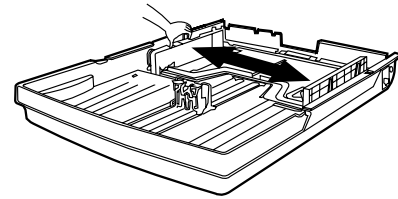
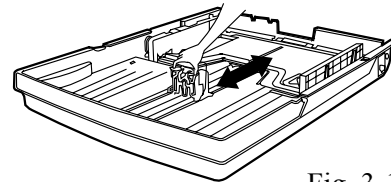

Fig. 3-17
Fig. 3-18
2. Set the side plate according to the paper size. For the horizontal direction, move the green side plate to meet the paper size position (see Fig. 3-17). For the vertical direction, move the green lever to adjust the end plate to meet the appropriate paper-size position (see Fig. 3-18).